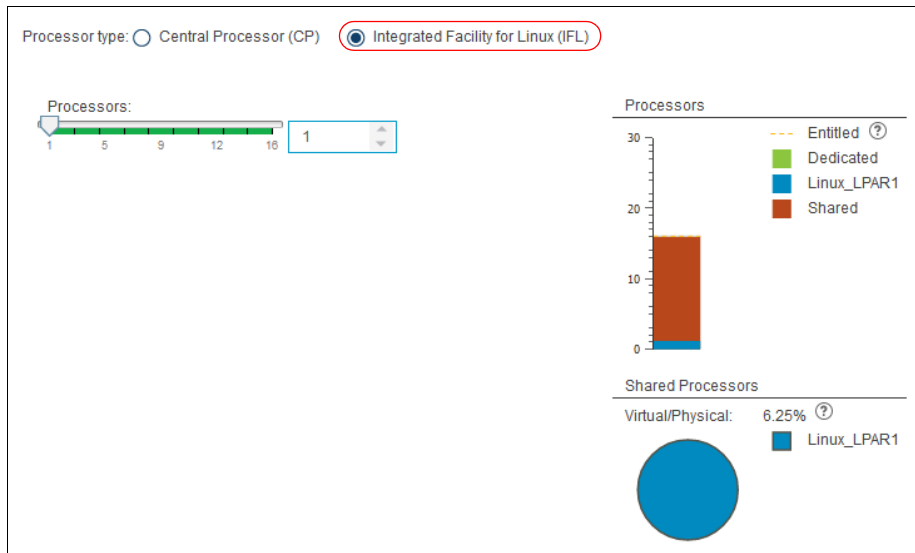

Figure 16-33 Selecting IFLs for the partition
4. We select for our partition processor type IFL, as shown in Figure 16-33. Then, click **Next**.